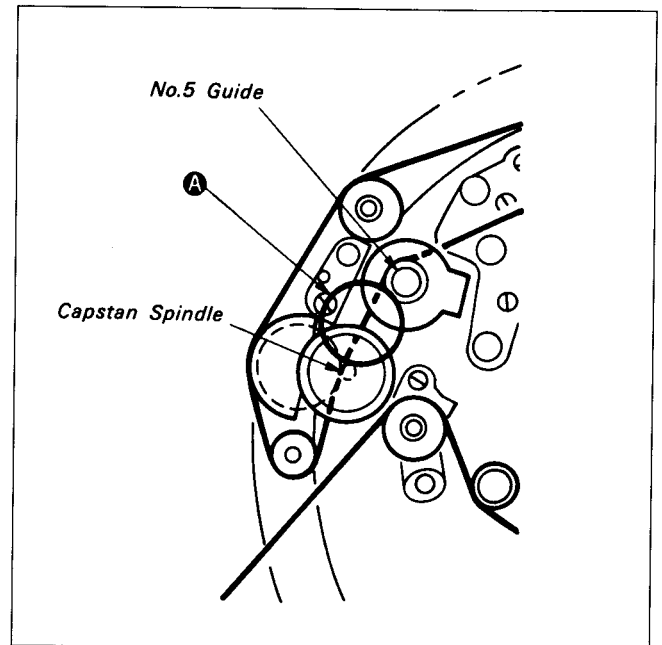

Fig. 7-87.
**Note:** Wrinkles may be caused in Part A between the capstan spindle and No.5 guide, if No.6 guide is raised excessively. Confirm that no wrinkles have been caused. (See Fig. 7-87.)
**Note:** Wrinkles may be caused in Part A of Fig. 7-87, if No.6 guide is raised excessively at this time, between the capstan spindle and No.5 guide, so check that no wrinkles are caused.